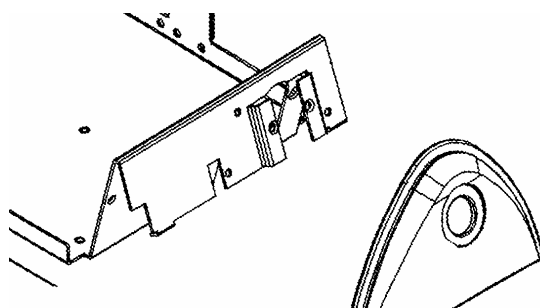

Figure C-11: Locating the Organizer Injector Panel
- a) Place the Organizer Injector Panel with the hole (Part Number 70-5229) onto the organizer chassis plate (Figure C-11).